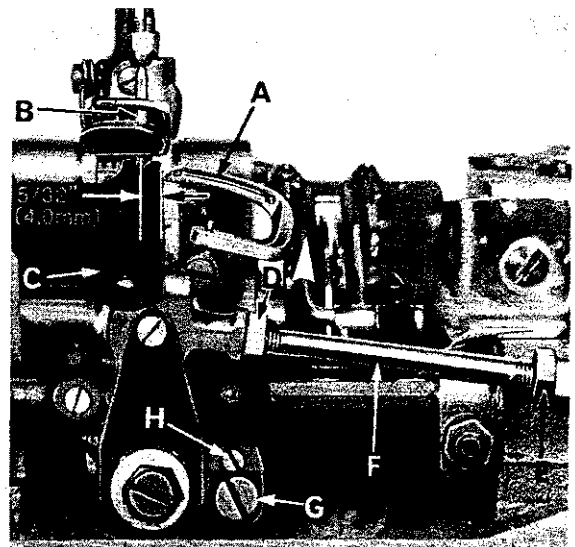

Fig. 6
Insert a new needle, type and size specified. Looper gauge is 5/32 inch (4.0mm) which is the distance from point of looper (A, Fig. 6) to centerline of needle (B) when looper is at extreme right end of its travel. Looper gauge No. 21225-5/32 (C) is available for this setting. Adjustment can be made by loosening nut (D), (it has a left hand thread) and nut (E); turn connecting rod (F) as required to attain specified dimension. Hold connecting rod in position and tighten nut (E); then nut (D). NOTE: Be sure that the left ball joint is in a vertical position and does not bind after adjustment.
While turning handwheel in operating direction and the looper (A, Fig. 7) moves to the left, its point should be set to brush but not pick at rear of needle (B). Adjustment can be made by loosening screw (G, Fig. 6), turn stop screw (H) clockwise to move looper towards the rear, counterclockwise acts the reverse. It is suggested to hold looper towards the front while making this adjustment. Tighten screw (G) after adjustment has been made and recheck movement of looper.